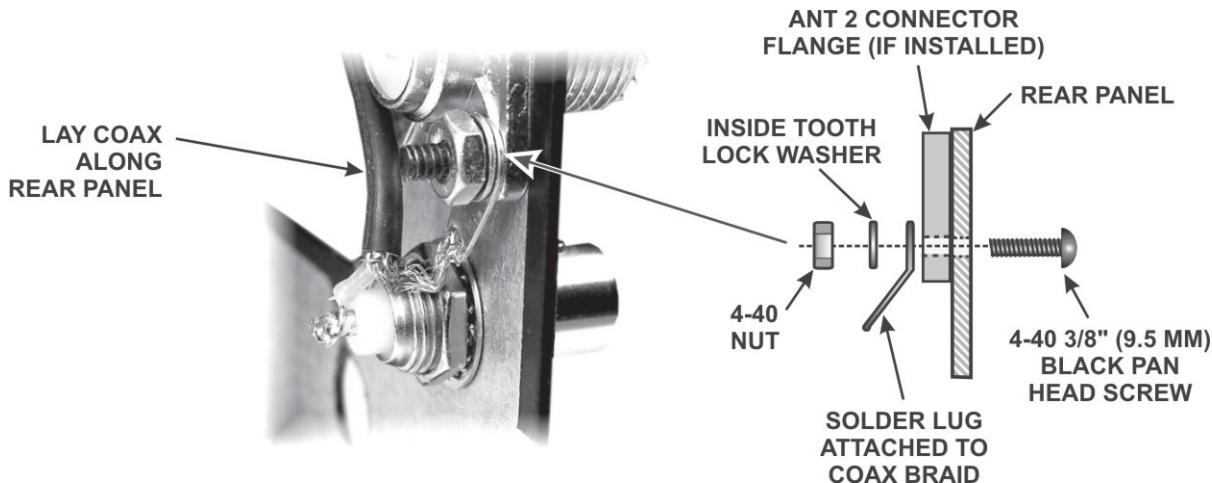

Figure 20. Installing the AUX RF Connector.
- Thread the BNC/TMP cable through the AUX RF connector hole from the outside, lining up the flat on the threaded section of the connector with the flat at the top of the hole. Slide the lock washer and nut onto the cable. Fold the solder lug on the braid down against the coax to fit through the back panel hole, the lock washer and the nut. Thread the nut onto the connector and tighten it (see Figure 20).
- Mount the solder lug attached to the braid as shown in Figure 20, using a 4-40 3/8" (9.5mm) black pan head screw, #4 inside tooth lock washer and 4-40 nut. If you have the KAT3 option, there will be a shorter screw holding the connector flange. Replace it with the 3/8" (9.5 mm) screw. If you do not have a KAT3, there will be no connector in the ANT2 hole. In that case, the solder lug is directly against the unpainted inside surface of the rear panel.